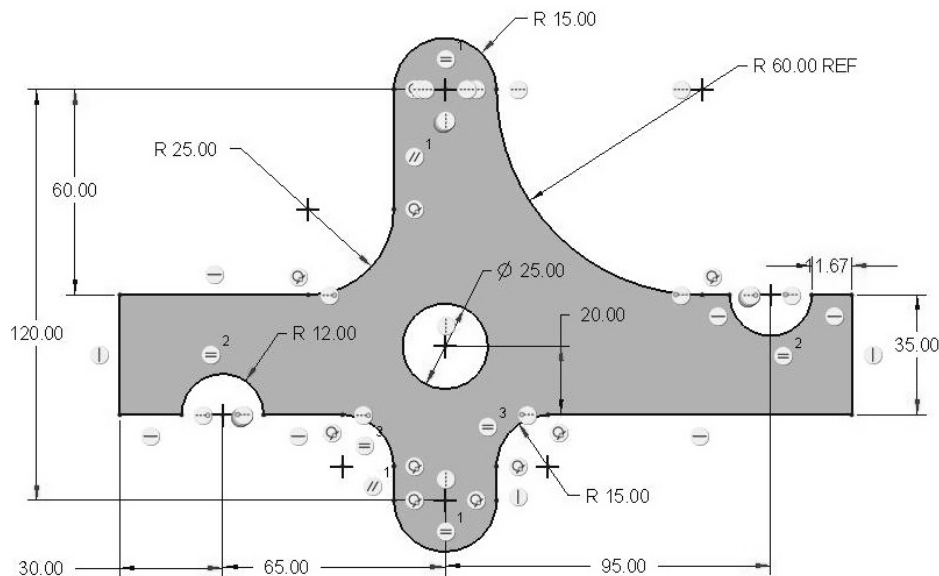

Figure 3-81 Problem 12—Ratchet Pawl
3.12 Challenge problem - Draw the "Ratchet_Pawl" (Figure 3-81). Design Intent—All arcs are tangent to each other or the straight edges. The R 12.00 arcs are centered are aligned with the horizontal edges. Pay close attention to the constraints shown. (>File>Options>Sketcher, change to 2 decimal places before sketching.)